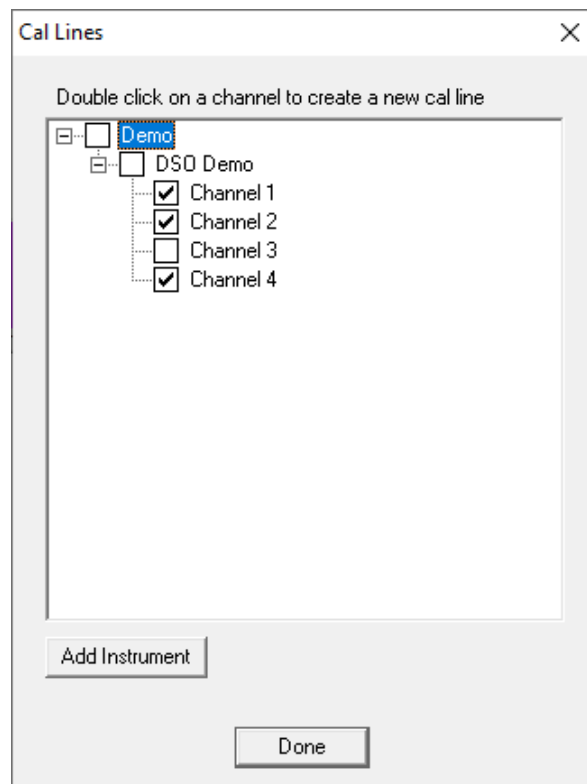

Figure 4-16. Cal Lines Dialog
2. The Cal Lines dialog will appear. (See Figure 4-16)